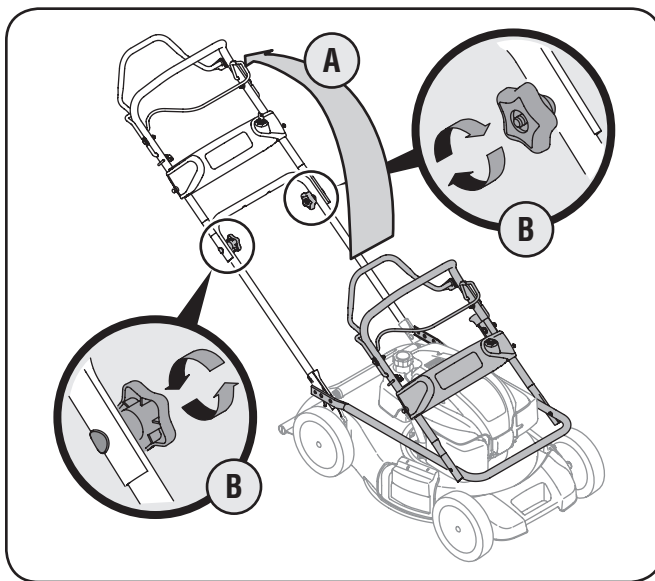

Figure 3-1
- Pull up and back on upper handle as shown in Fig. 3-1. Do not crimp cable while lifting the handle up. Remove star knobs from handle mounting brackets and secure the lower handle onto the handle brackets by placing the lower hole of the lower handle onto the pins of the handle brackets.
- Tighten star knobs securing upper handle to lower handle. See Fig. 3-1. Make sure that each carriage bolt is seated properly in the handle.